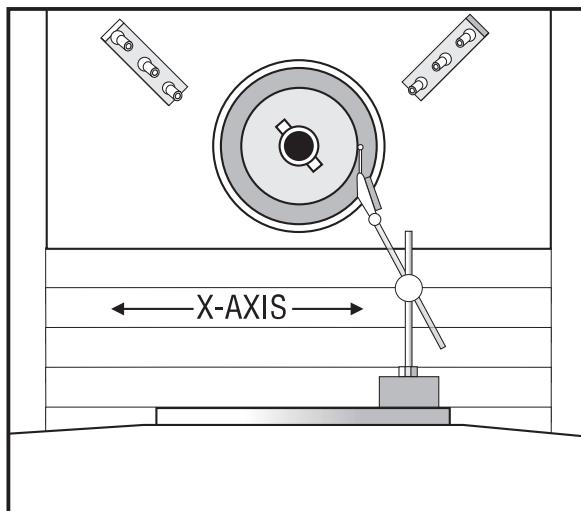

Figure 1-1. Dial indicator in position to check X-axis.
1. Set up a dial indicator and base on the mill table as shown in Fig. 1-1.
An alternate method for checking backlash is to place the dial indicator as shown in Fig. 1-1 and manually push the mill column to the left and right while listening for a 'clunk'. The dial indicator should return to zero after releasing the column.